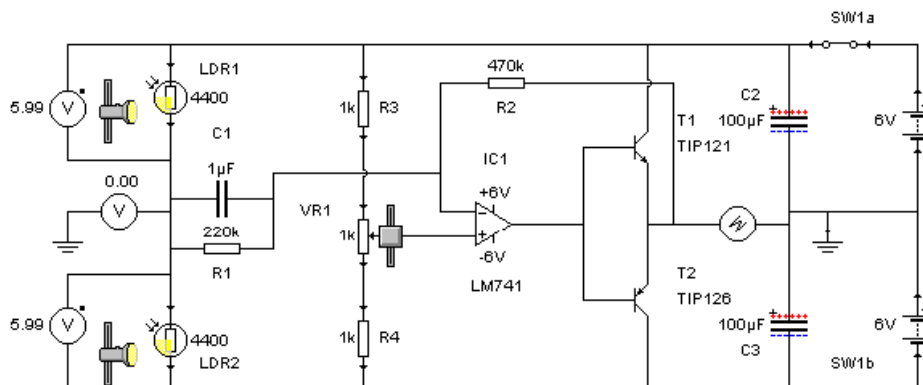

FIGURE 2: EQUAL AMOUNTS OF LIGHT TO LDR1 & LDR2
8.2.1 EQUAL AMOUNTS OF LIGHT TO BOTH LDRs - Figure 2